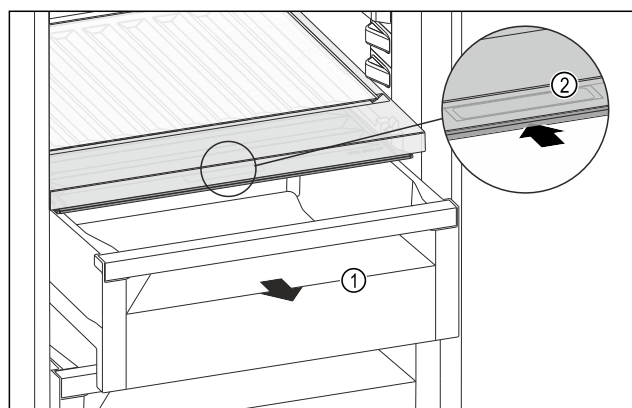

Fig. 108
- Pull out the drawer Fig. 108 (1).
- Grasp the recessed grip Fig. 108 (2) on the compartment lid and push the compartment lid backwards at the same time.